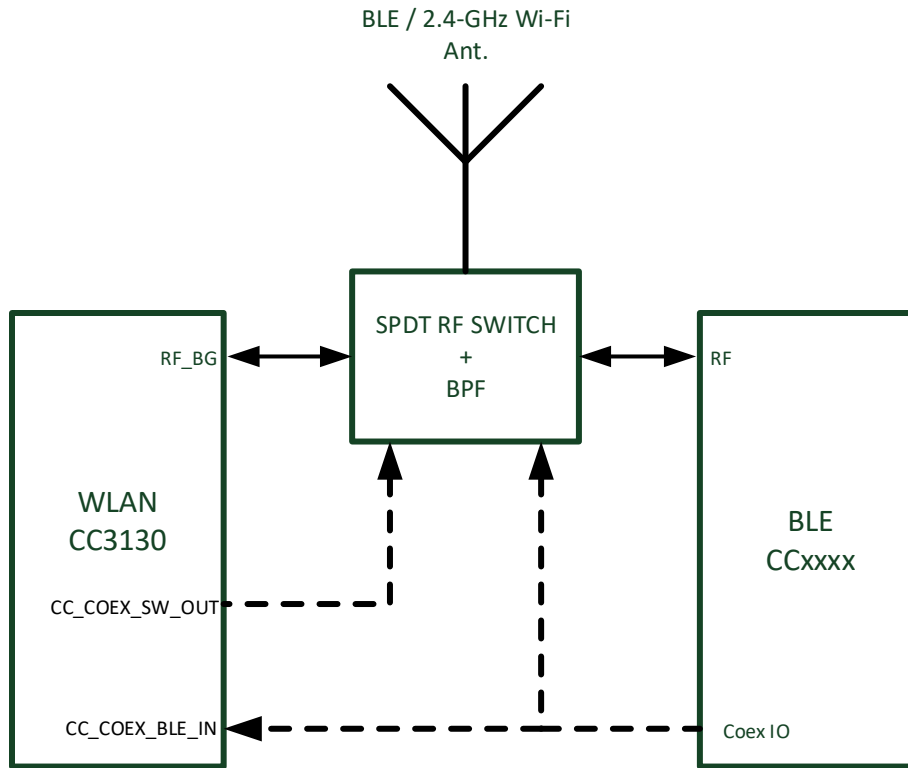

Figure 9-1. Single-Antenna Coexistence Mode Block Diagram
- In this mode, (see Figure 9-1) the two entities share the antenna through an RF switch using two GPIOs (one input and one output from the WLAN perspective).
Figure 9-1 shows the single antenna implementation of a complete Bluetooth® low energy and WLAN coexistence network. The Coex switch is controlled by a GPIO signal from the BLE device and a GPIO signal from the CC3130 device.